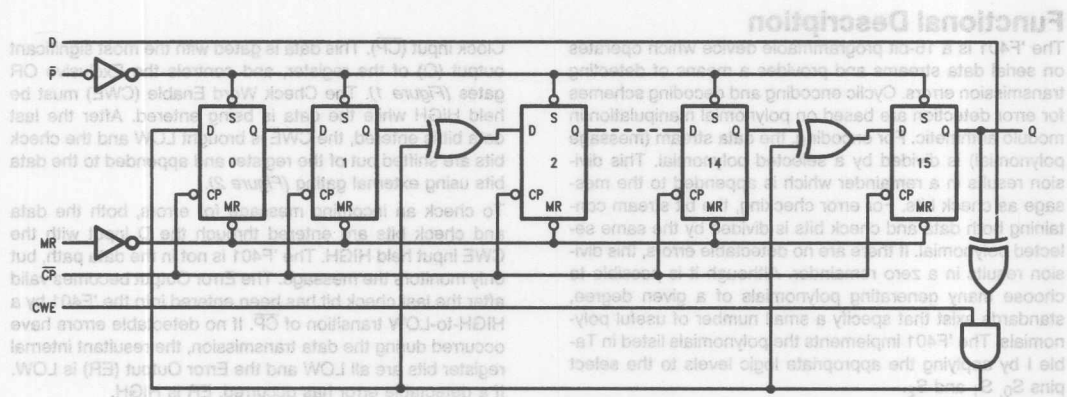

FIGURE 1. Equivalent Circuit for  $X^{16} + X^{15} + X^2 + 1$
Clock input ( $\overline{CP}$ ). This data is gated with the most significant output (Q) of the register, and controls the Exclusive OR gates (Figure 1). The Check Word Enable (CWE) must be held HIGH while the data is being entered. After the last data bit is entered, the CWE is brought LOW and the check bits are shifted out of the register and appended to the data bits using external gating (Figure 2).